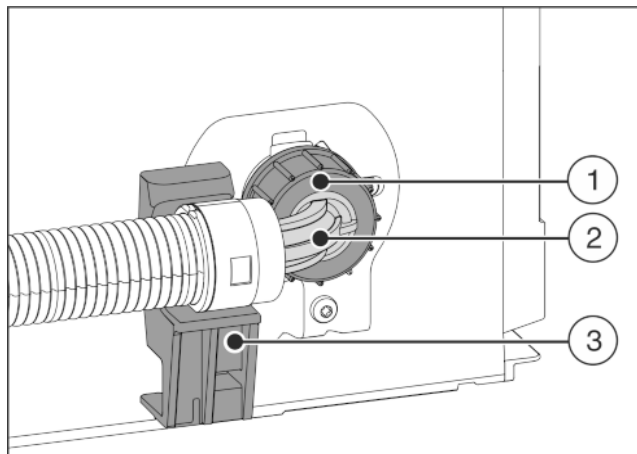

Fig. 22
- ▶ Hold the angled hose end Fig. 22 (2) horizontally at bracket Fig. 22 (3) and secure it.
- ▶ Screw the nut Fig. 22 (1) on by hand until it is firmly in place.